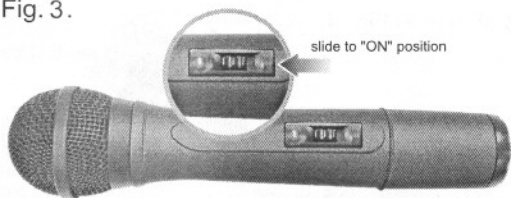

Fig.3
- After putting the battery cover back to the housing, slides the switch to "ON" position as shown in Fig. 3.